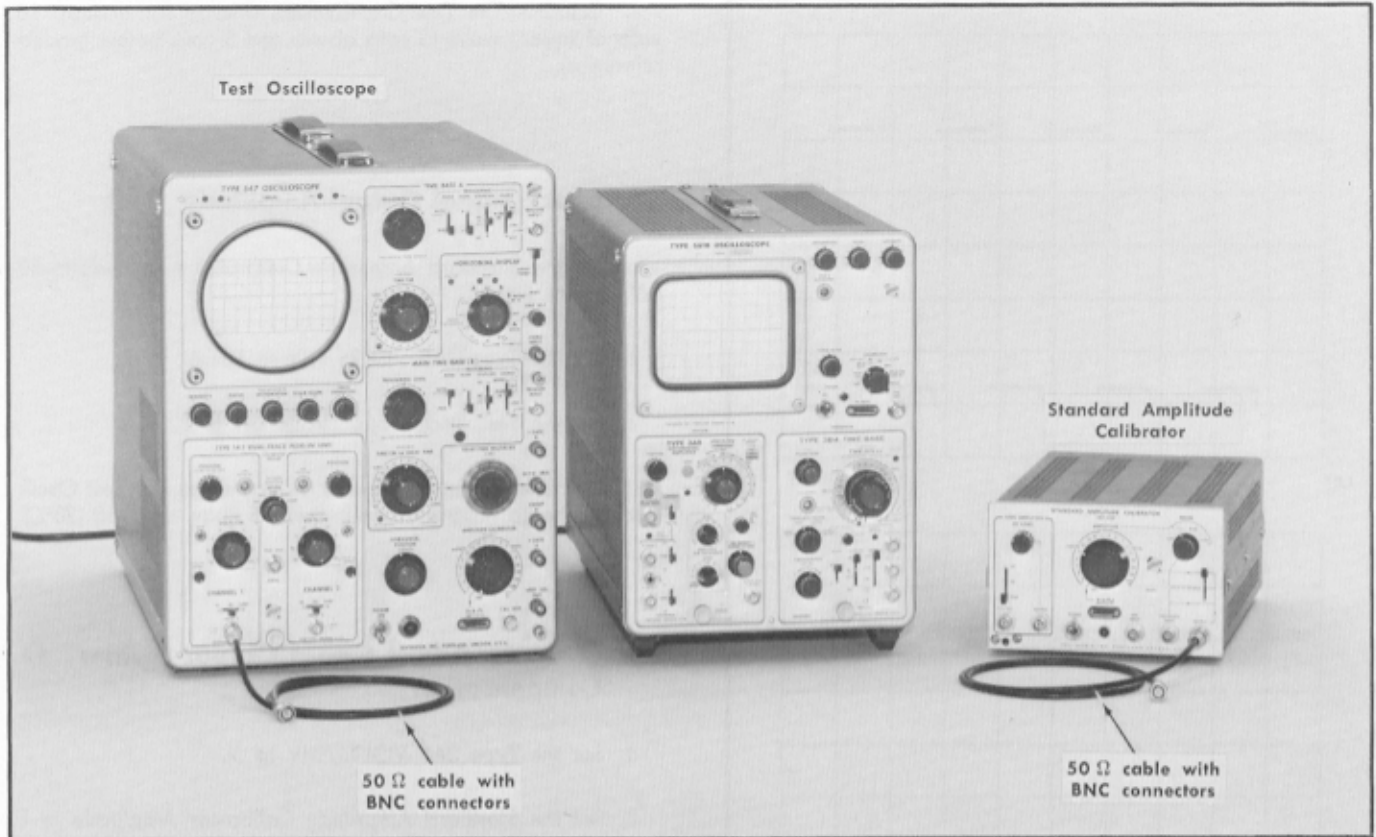

Fig. 5-36. Equipment required for steps 29 through 31.
- Test equipment is shown in Fig. 5-36.